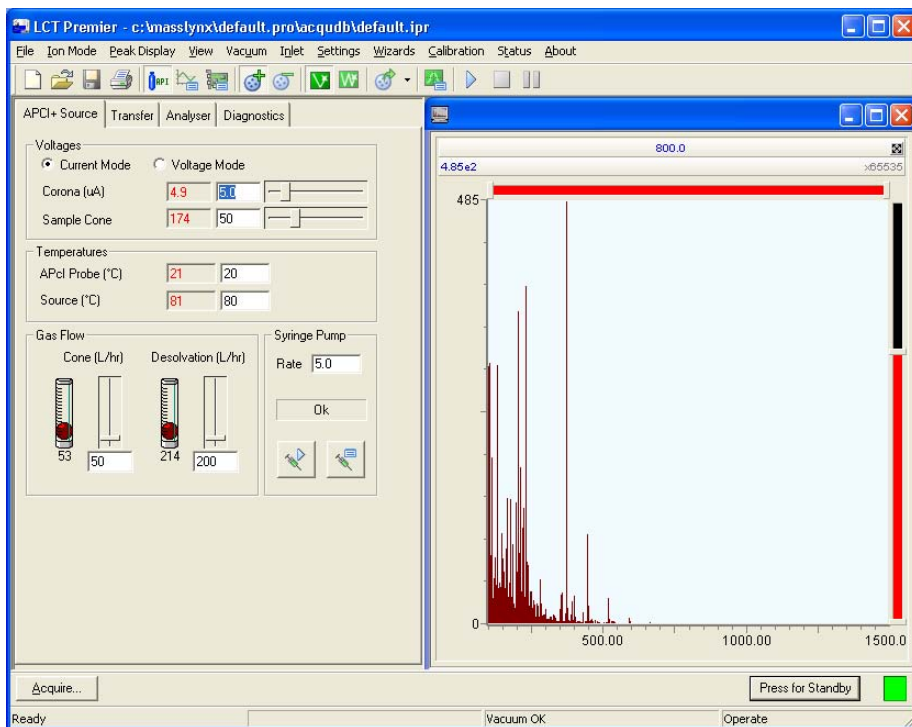

Figure 5-3 Tune Window
7. Set the parameters to the recommended values shown in Figure 5-3.